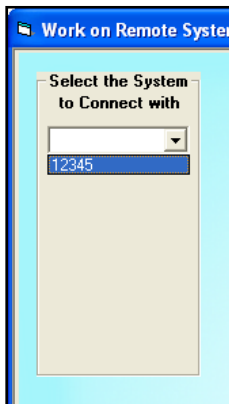

Fig. 8.12
- 2) Using the drop down box, select the system that you want to connect with (Fig. 8.12).